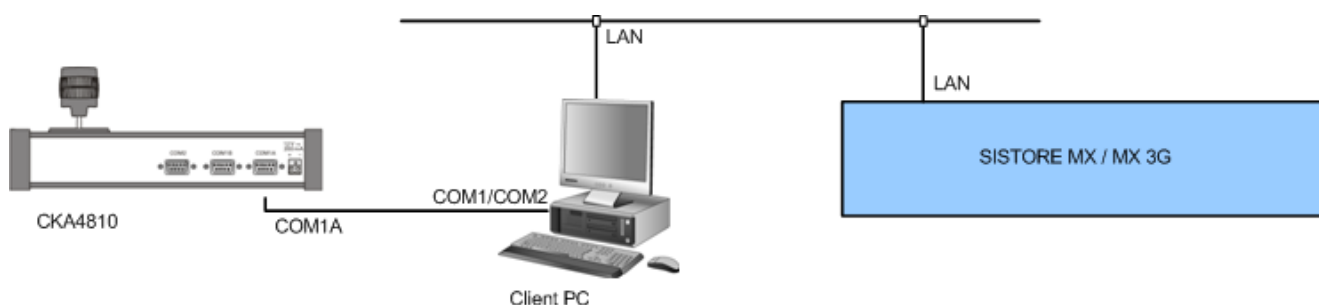

Fig. 6 SISTORE RemoteView – CKA4810 system overview
1. Connect the CKA4810 control panel to the client PC (see Fig. 6).